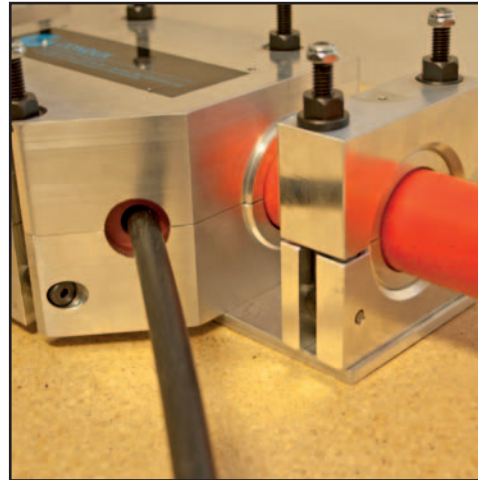

Figure 12. Sealed Y-Block
**Note: Figure 12 shows a correctly sealed Condux Y-Block.**